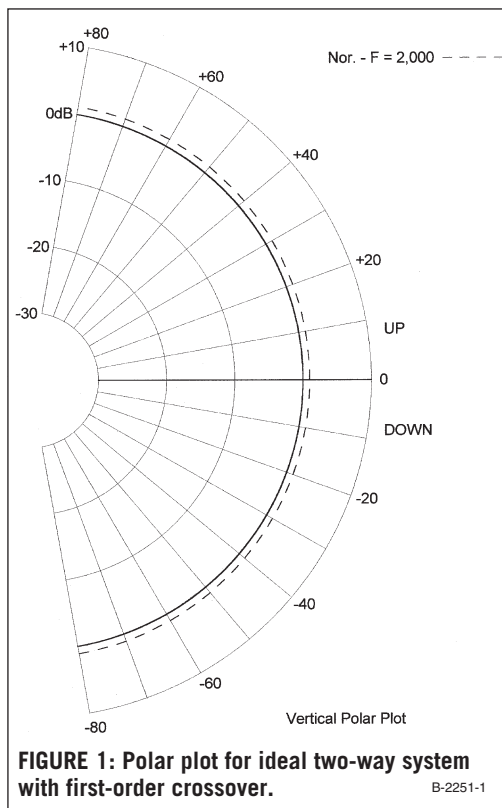
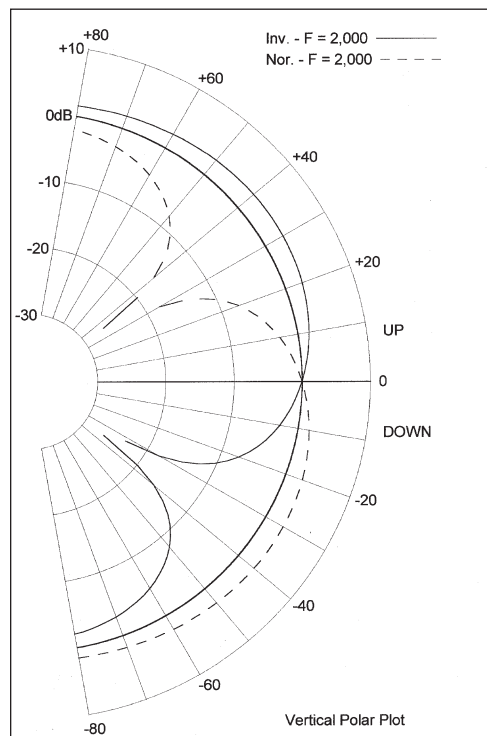

FIGURE 1: Polar plot for ideal two-way system with first-order crossover.
FIGURE 3: Ideal first-order Butterworth CO—solid curve is inverted tweeter polarity; dashed curve is normal tweeter polarity.
the same point in space is a circle. The dB value of this circle is that of the on-axis response of the CO at the frequency used for the polar plot. *Figure 1* shows such a plot for a first-order Butterworth (B1) CO with the ideal drivers.
The gain of each driver in *Fig. 1* has been increased 1dB to raise the dashed system response plot above the 0dB circle for clarity. For this system the response is a circle (at +1dB) for both the vertical and horizontal planes. Also, the response stays a circle for the tweeter (top driver) wired with either the same polarity as the woofer (normal) or with reversed polarity (inverted).
Figures 3 and 4 show the vertical polar plots for four common CO functions with this pair of spaced ideal drivers, which radiate in all directions a perfectly flat frequency response, and both have their acoustic radiation center located in the plane of the front panel. These are the plots you might see in CO design articles and thus represent taking the outputs of the high-pass (HP) and low-pass (LP) crossover networks and vector summing them while correcting for the difference in transit time between the two drivers to the point of interest. Normally the acoustic summation is taken to occur at infinity. This means both drivers radiate along a line at the angle shown in the polar plot. Note that with these ideal drivers aligned vertically, the horizontal polar plot will still be a circle.
Figure 3 is the vertical polar plot for the first-order Butterworth (B1) CO at the CO frequency. Note that the 1dB gain used on each driver in *Fig. 1* has been removed. Rather than the circle you had with no CTC spacing between the drivers, you now have a polar response that nulls at some angle. Where this null occurs depends on the tweeter wiring polarity.